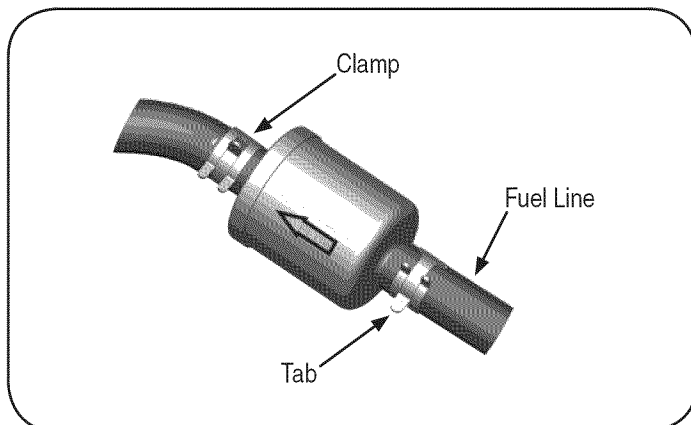

Figure 30
2. Use pliers to squeeze tabs on the clamps, then slide the clamps away from the fuel filter. Twist and pull the fuel lines off of the fuel filter. See Figure 30.